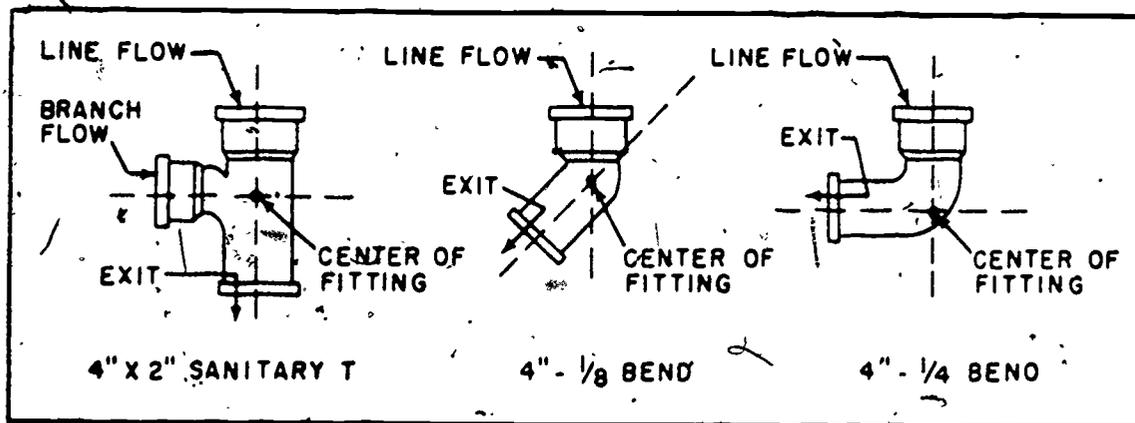
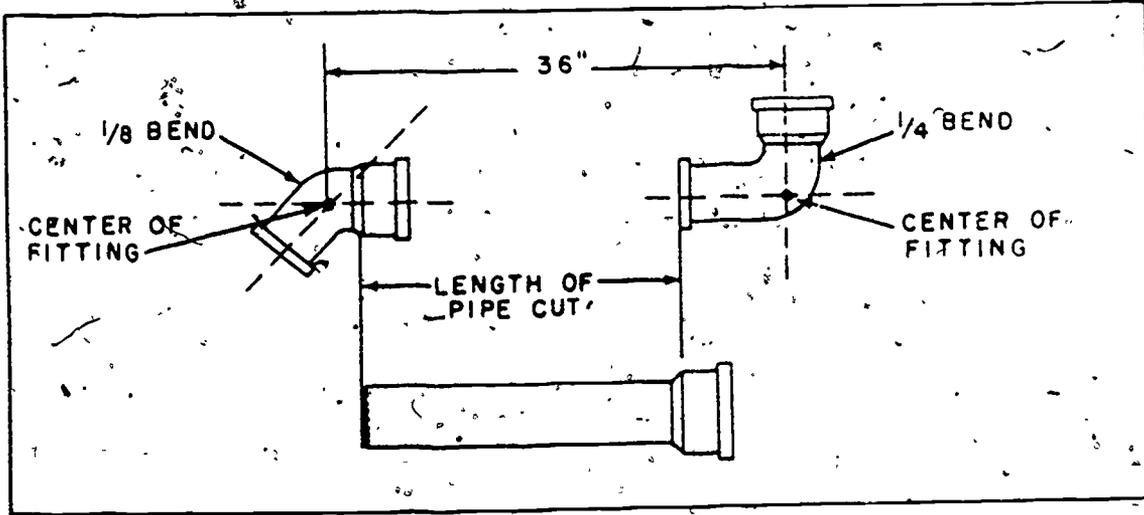

Figure 4-1. Center measurement for cast iron fittings
Figure 4-2. Determining the length of pipe.
*Measuring cast-iron soil pipe.* It is important that you learn how to locate the center of fittings. The center of a fitting is that point where the lines of flow through the fitting intersect each other, as shown in figure 4-1. In a drainage system, suppose you are going to join a 1/4-bend and a 1/8-bend fitting with a piece of soil pipe and the center-to-center measurement must be 36 inches. You can see that the piece of pipe will be less than 36 inches because the fittings will take up part of the overall measurement, as shown in figure 4-2.